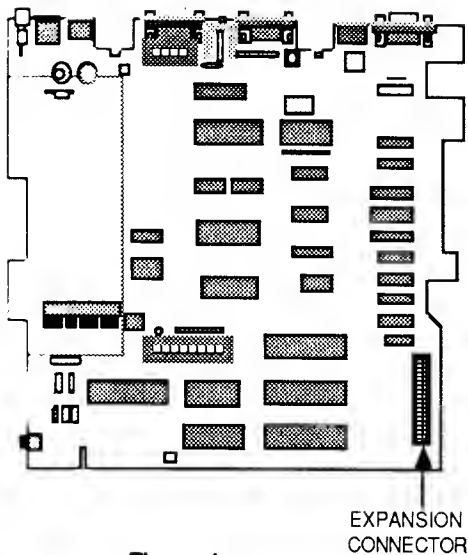
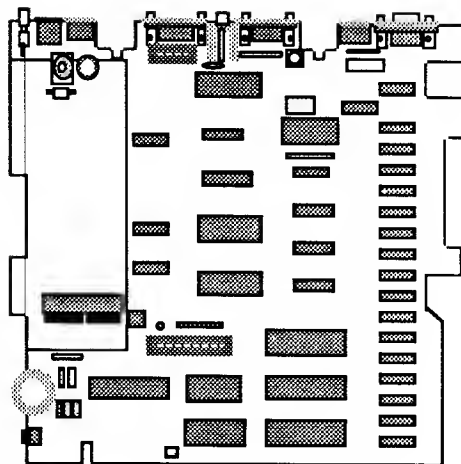

Figure 1
Figure 2
3. Compare the logic board with Figures 1 and 2. If the logic board looks like the one shown in Figure 2, then a logic board upgrade is required. Perform a **Logic Board Upgrade** (instructions are included in the **Apple IIc Logic Board Upgrade Kit**) before proceeding to "Install Logic Board Stand-Offs". If the logic board looks like the one shown in Figure 1, continue.